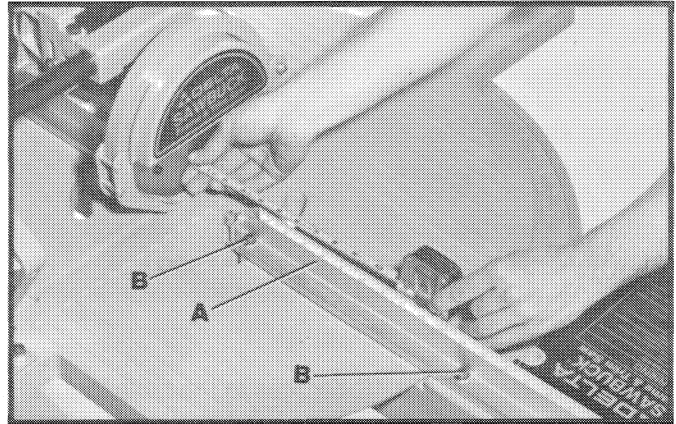

Fig. 30
1. Using a tape, place one end of the tape against the saw blade and extend the tape out along the fence, as shown in Fig. 30. Check to see if the measurements on the tape agree with the measurements on the fence scale (A).
2. If an adjustment is necessary, loosen the three screws (two of which are shown at (B) Fig. 30), that attach the fence to the fixed and rotating tables, and slide the fence until the measurement lines are the same on both the tape and the fence scale.
4. Using a straight edge (such as a level), place the straight edge against the front surfaces of both fences and move the fences against the straight edge to make certain they are in line with each other. Then tighten the six screws that hold the fences to the table, two of which are shown at (B) Fig. 30.